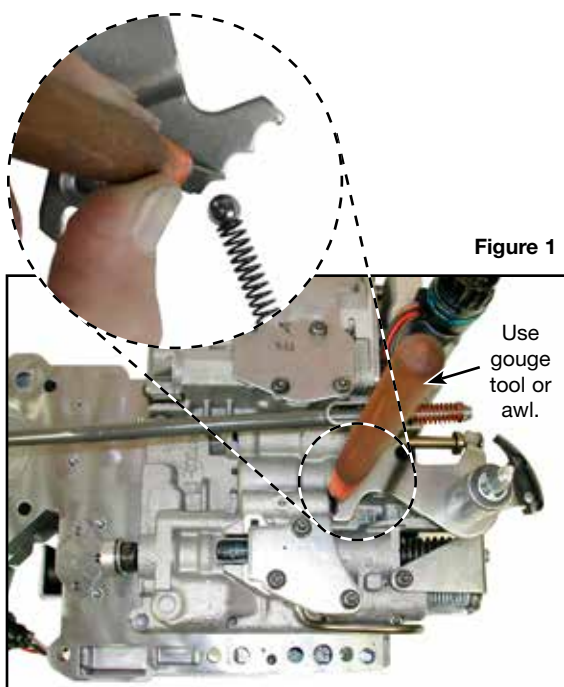

Figure 1
- Secure manual lever detent ball with Chrysler tool #6583 (**Figure 1**). An alternative method: use a dull wood workers gouge tool to compress the detent ball while removing the manual lever.